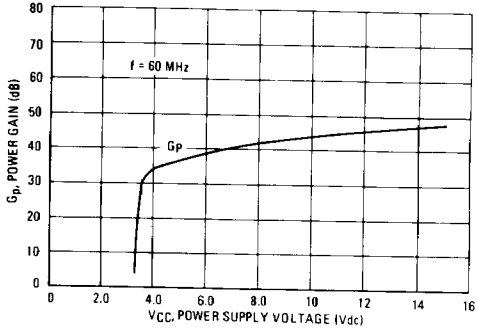

FIGURE 10 – REVERSE TRANSFER ADMITTANCE versus FREQUENCY
*The value of Reverse Transfer Admittance includes the feedback admittance of the test circuit used in the measurement. The total feedback capacitance (including test circuit) is 0.025 pF and is a more practical value for design calculations than the internal feedback of the device alone. (See Figure 10.)